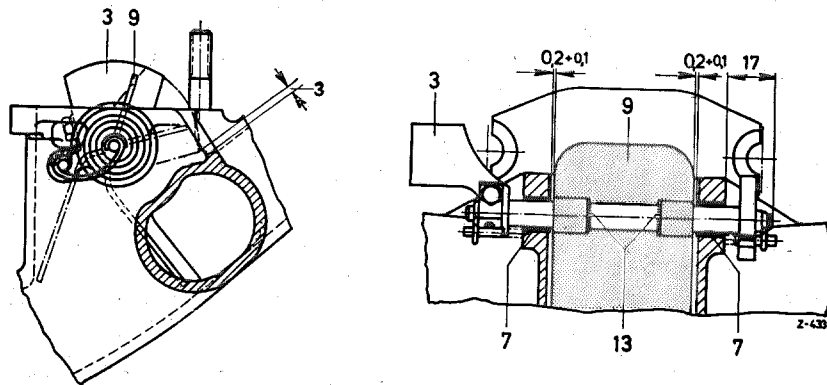

Fig. 14—5/2
6. Press the new bushings (7) into the bores in the exhaust manifold (Fig. 14—5/2).
7. Fit the heater valve (9); insert a suitable rod and adjust the heater valve so that it is closed and lies against the stop. Then press in the two bushings so that the heater valve is jammed in position. Then pull out the rod.
8. Press the balancing weight (3) onto the heater valve shaft (10) and lock it in position by means of the dowel pin (8) (Fig. 14—5/1).
9. Slide the heater valve shaft into the bores in the exhaust manifold and in the heater valve, until the shaft protrudes 17 mm and then turn the shaft so that there is a distance of not more than approx. 3 mm between the balancing weight (3) and the exhaust manifold with the heater valve closed. Then electrically weld the heater valve to the valve shaft (13) (Fig. 14—5/2).
11. Screw the damper spring (6) onto the balancing weight so that with the heater valve open it rests against the notched attaching pin (Fig. 14—5/2).
12. Press the heating spiral onto the heater valve shaft so that the slanting end points toward the exhaust manifold side. Then turn the heating spiral approx. $\frac{1}{2}$ turn so that it is under initial stress and attach the other end to the notched attaching pin (12).